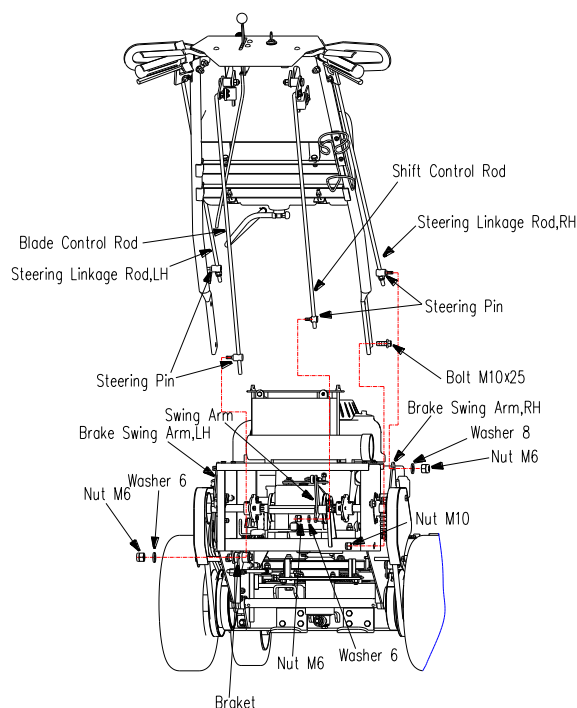

FIG 4
- Attach the handle with four M10×25 Flange Hd. Bolts and four M10 locknuts on each side as shown in FIG 4.
- Insert rod end connector threaded stud of left and right steering linkage rod assemblies through hole of left and right brake swing arms; add M6 nut and washer 8 and tighten. Next, insert rod end connector threaded stud of shift control rod assembly through hole of shift control arm; add M6 nut and washer 6 and tighten. To finish, insert rod end connector threaded stud of blade control rod assembly through hole of tension swing arm; add M6 nut and washer 6 and tighten. See FIG 4